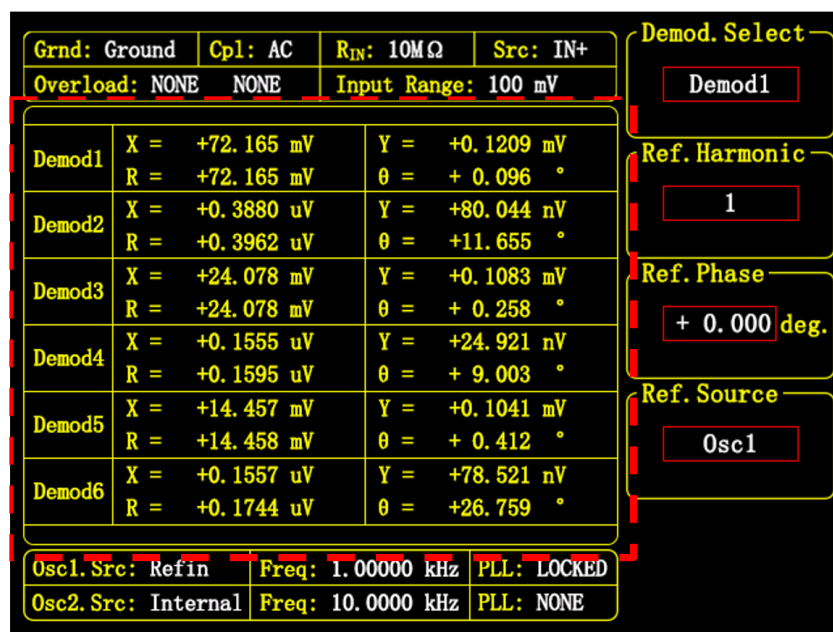

Figure 98. Harmonic Measurement Results of the Square Wave
- To measure the 1st, 2nd, 3rd, 4th, 5th, and 6th harmonics of the input square wave simultaneously, operate as follows. In the [DEMODO REF] submenu, press "Soft key 1" to switch among the six demodulator channels. Press "Soft key 2" to select the harmonic setting window, where the harmonic order of the current demodulator channel can be modified. For demodulators 1 to 6, set their harmonic orders to 1 to 6 in order.
- Then, in the [DISPLAY] submenu, press "Soft key 2" to set <Display Mode> to <Full>, as shown in Figure 98, so that all fundamental and harmonic measurement results are displayed.
Using the calculation method described above, the measurement values can be compared with the theoretical calculated values. As shown in the measurement results in Figure 98, the measured values are consistent with the theoretical values.